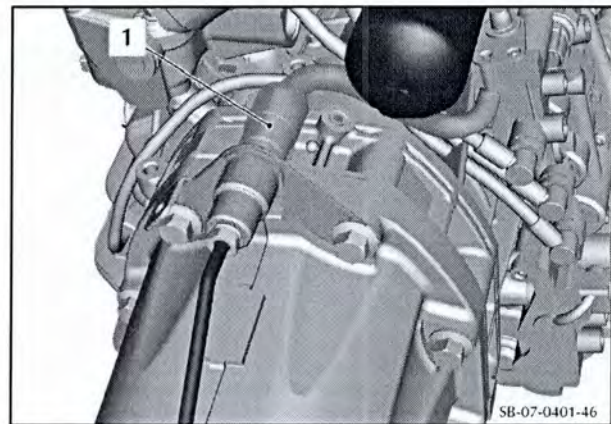
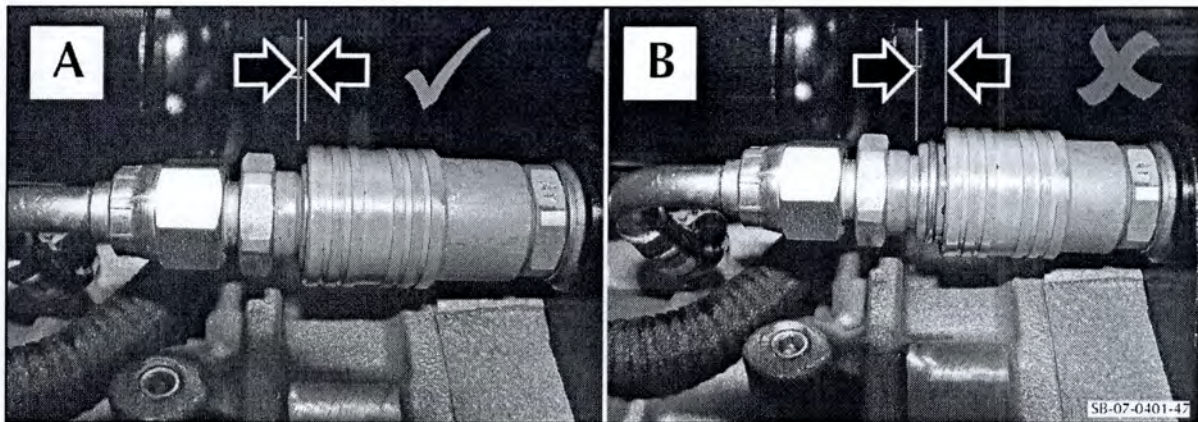

Figure 46
Figure 47
- 91. Connect the dry-break connector to the tube assembly for the clutch slave cylinder (refer to Figure 46). Make sure that the locking collar for the connector is in the correct position shown in view A of Figure 47. View B shows a connector that is not correctly connected.